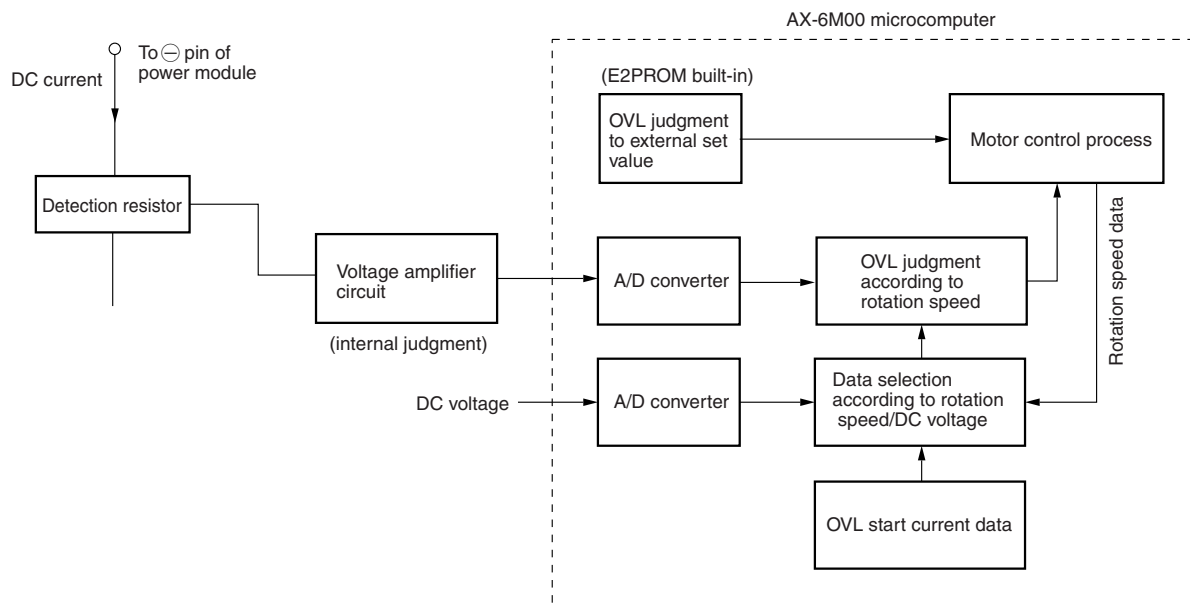
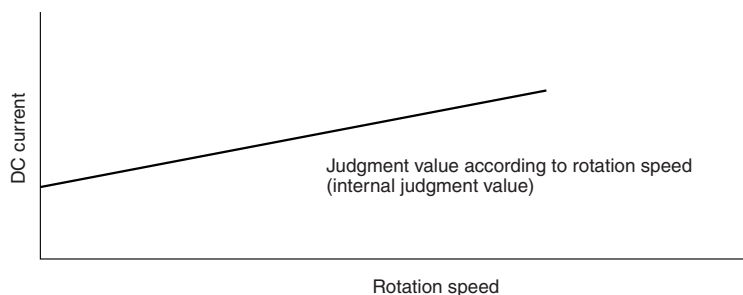

Fig. 8-1 Overload control system configuration
Fig. 8-2
- Fig.8-1 shows the overload control system configuration, and Fig. 8-2 shows characteristics diagram of overload judgment value. There are two judgments. One is external judgment: External set value and DC current value are compared for judgment regardless of rotation speed. The other is internal judgment: set value varying according to rotation speed programmed in microcomputer is compared with DC current value for judgment.